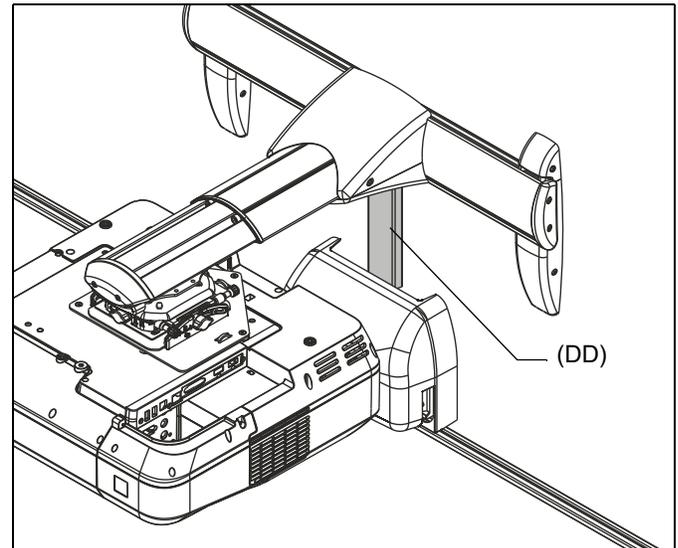

Figure 61
11. Separate the two pieces of the cable channel (DD).
12. Remove paper from adhesive on the back piece, and attach cable channel back to wall vertically between the projector mount assembly and the touch sensor cover. (See Figure 61)
13. Lay cables on cable channel back and snap cover into place over the cables. (See Figure 61)